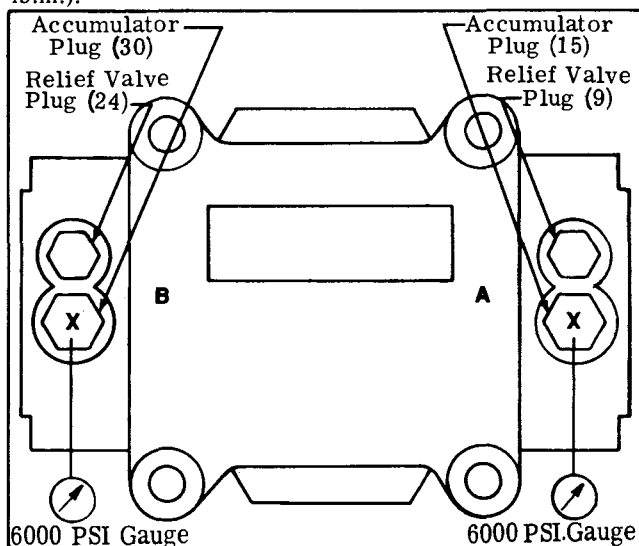

Figure 15. Pressure Gauge Connections & Relief Valve Plugs (CMX250, 400 & 630 only).
1. Remove indicated hex plugs from end covers and install pressure gauge fittings. See Figure 15 for CMX250, CMX400 and CMX630 only. Install a 6000 PSIG pressure gauge into each fitting. CMX160 valves require gauge installation at the "A" and "B" actuator ports.
7. Turn off power and release all pressure within the system. Remove port relief valve plugs noted in Figure 15. Modify the shim stack to provide correct pressure setting. (NOTE: 0.001 shim thickness equals approximately 20 PSIG.) Install port relief valve plugs and torque to value shown in Table 6. Repeat steps 3 through 6. If pressure readings still do not meet model code requirements, refer to the POWER MATCH™ troubleshooting data (Table 4) for further checks of the system.